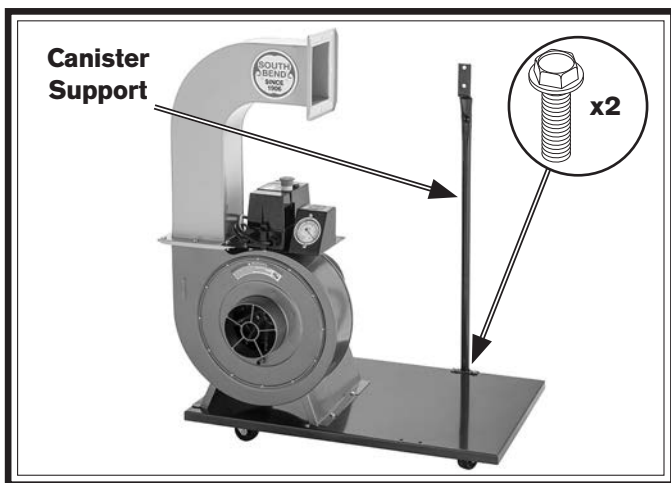

Figure 16. SB1100 canister support.
9. Attach canister support to base with (2) $\frac{5}{16}$ "-18 x $\frac{1}{2}$ " flange bolts (see **Figure 16**).